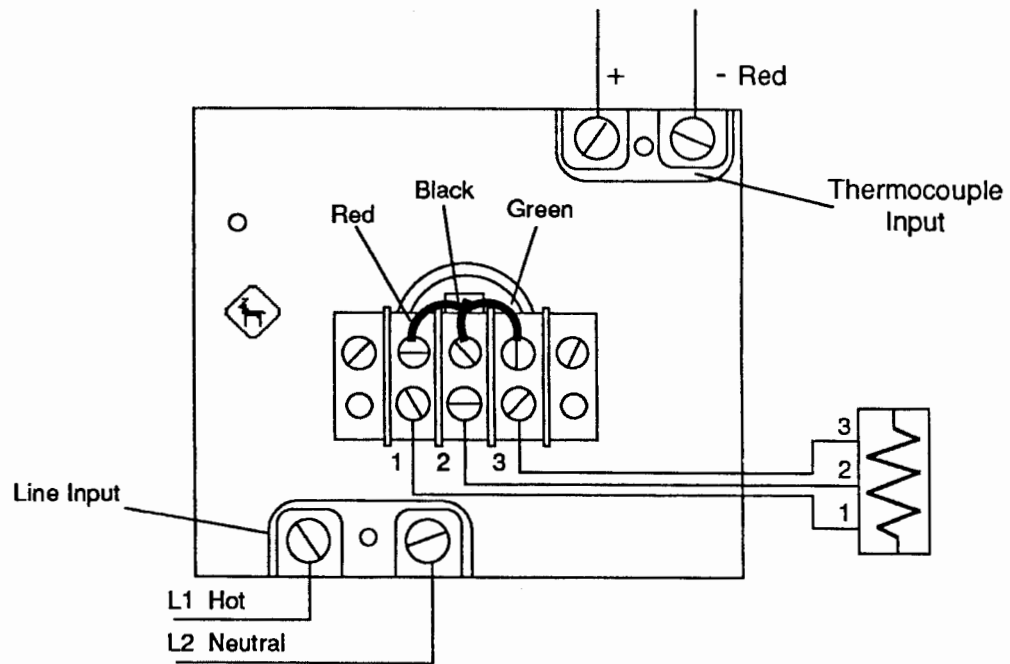

Figure 7 - Remote Setpot Wiring
4. Connect sensor, load, and remote setpot assembly to your Relay Master per the Remote Setpot Wiring diagram, Figure 7.